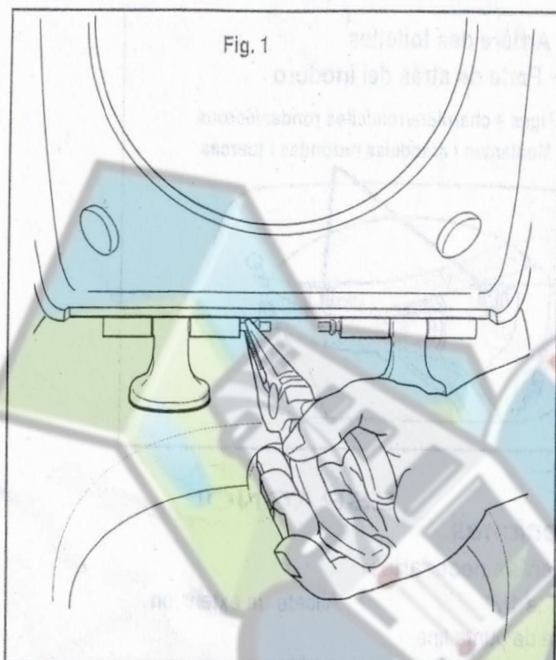

Fig. 1
1. Remove existing Hinge Pins with Needle-Nose Pliers (Fig. 1). Discard. Lift off Seat and Cover.